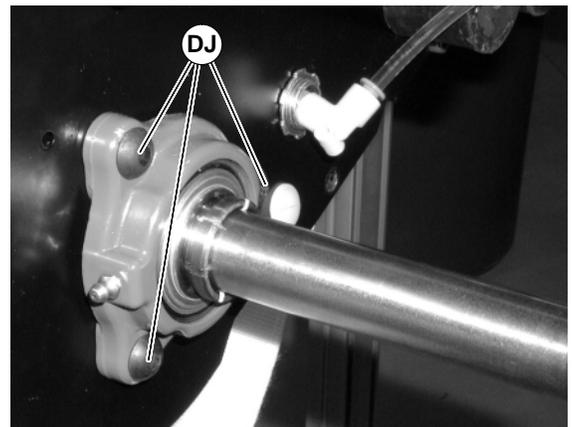

Figure 106
6. Tighten three (3) mounting screws (DJ of Figure 106) to 200 in-lbs (22.5 N-m).